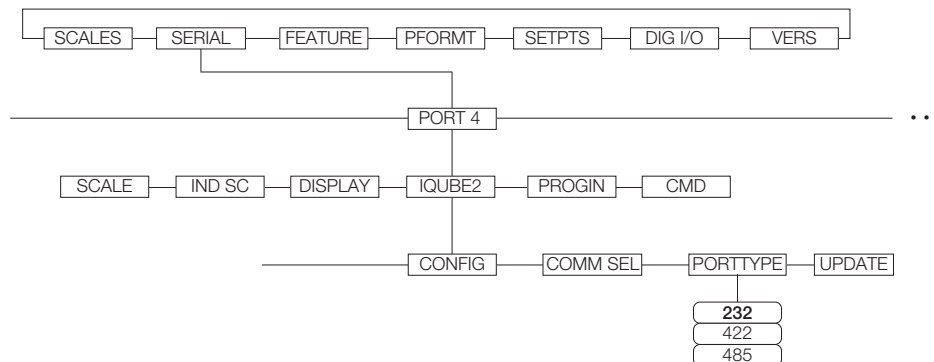

Figure 1. PORTTYPE Parameter
1. From the **System Parameters** section, click **Scales**. See Figure 1.